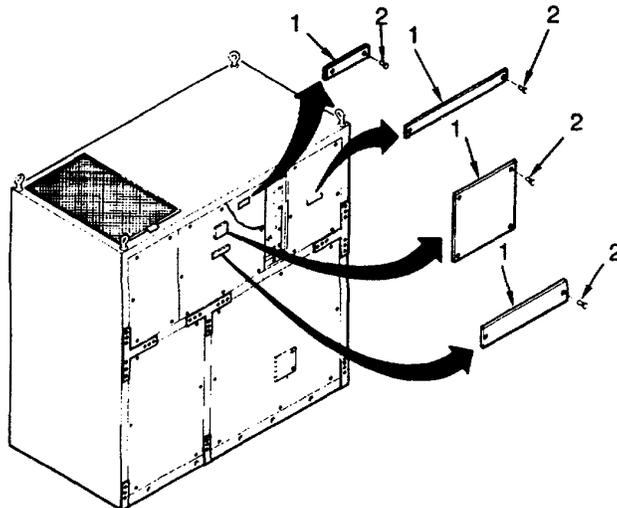

Figure 4-30. Information Plates
1. Check that information plates are readable and in place (see Figure 4-30).